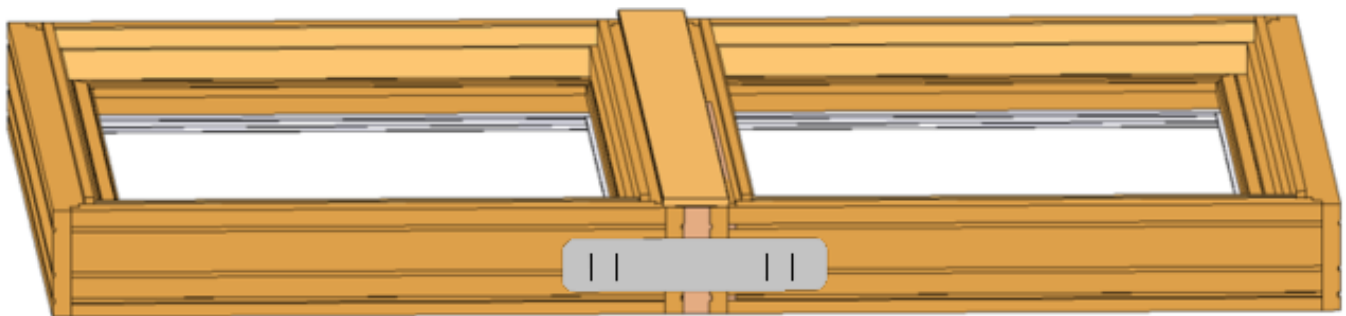

Figure 4
- I. Apply gusset plates to mull joints using two 1/2", 16 gauge staples per side (figure 4).